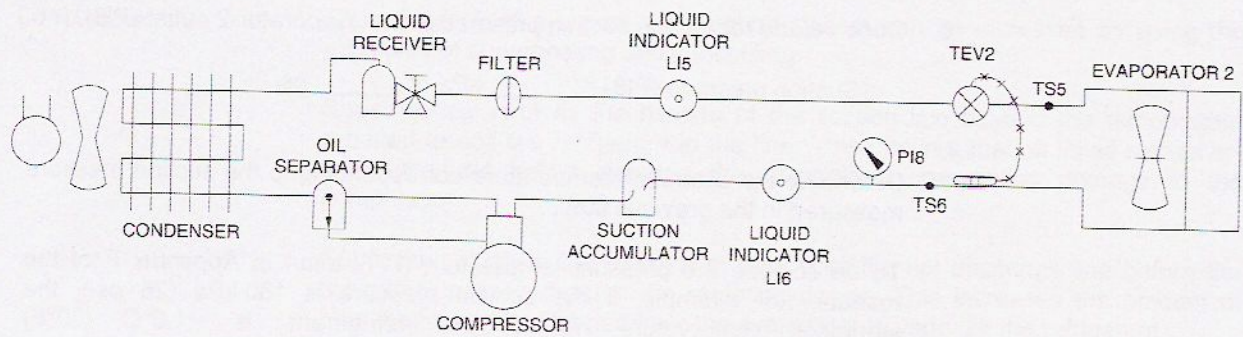

Figure 6-3. Schematic diagram of typical refrigeration system.
A schematic diagram of a typical refrigeration system is shown in Figure 6-3. This system will be used to examine superheat when using a thermostatic expansion valve.
1. Open and close the manual valves to arrange the refrigeration system as shown in Figure 6-3. Figure A-8 in Appendix A may be used to assist in the proper set-up of the system.